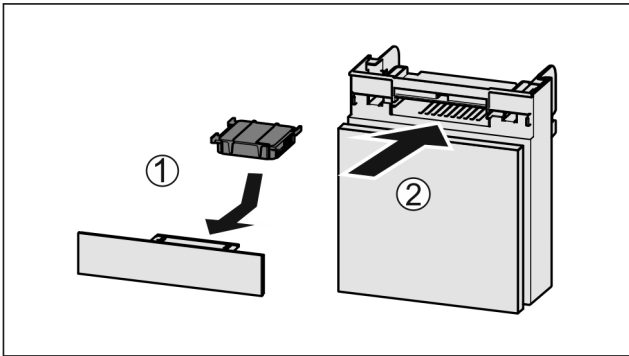

Fig. 71
- ▶ Insert the carbon filter as shown in the diagram Fig. 71 (1).
- ▶ Push the compartment in Fig. 71 (2).